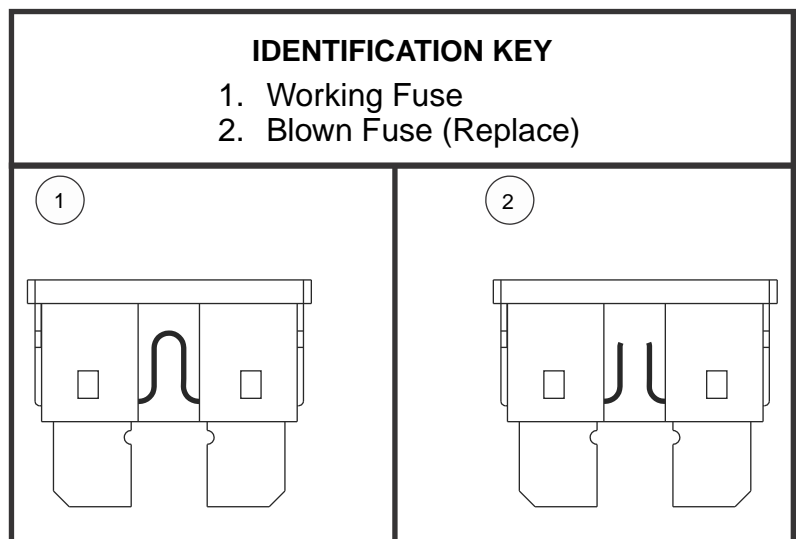

Figure 6. Fuse Replacement
2. Examine the fuse to be sure it is blown. **See figure 6.**